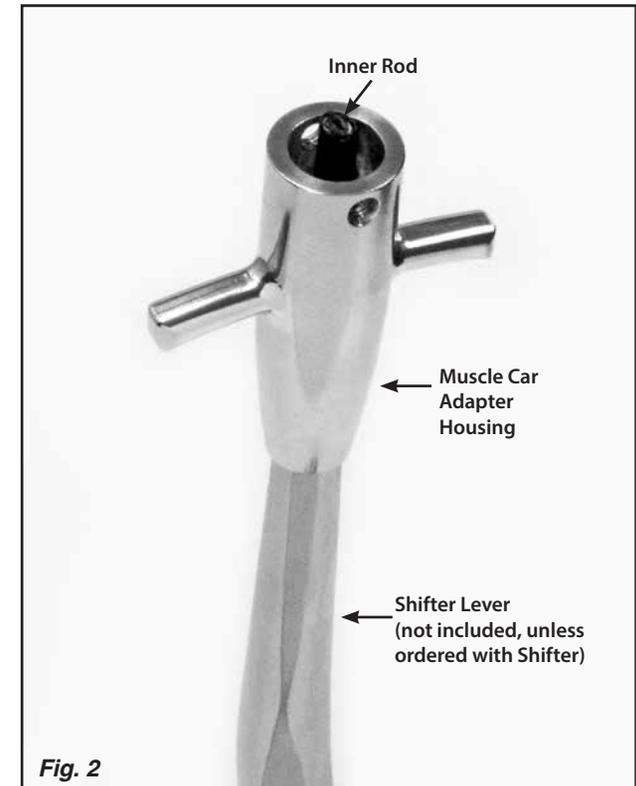

Fig. 2
Step 2: Install the muscle car adapter housing onto your shifter lever, threading it all the way down until it bottoms out. Fig. 2